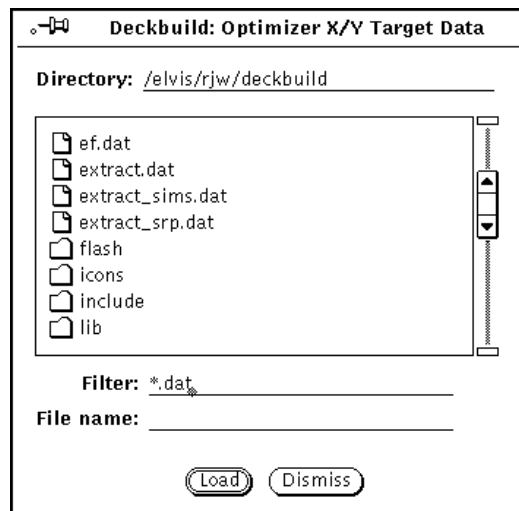

Figure 6-17: X/Y Target Data Popup
2. Choose **Edit**→**X/Y Data**→**From File...** and the **Optimizer X/Y Target Data** popup will appear (Figure 6-17).